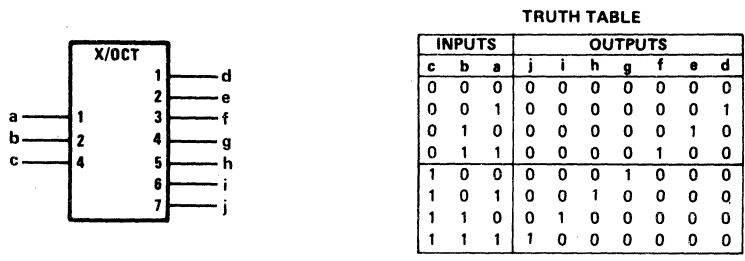

Figure 28. An X/Octal Code Converter
- 2) replacing Y by an appropriate indication of the output code and labeling the outputs with characters that refer to this code as in Figure 28.